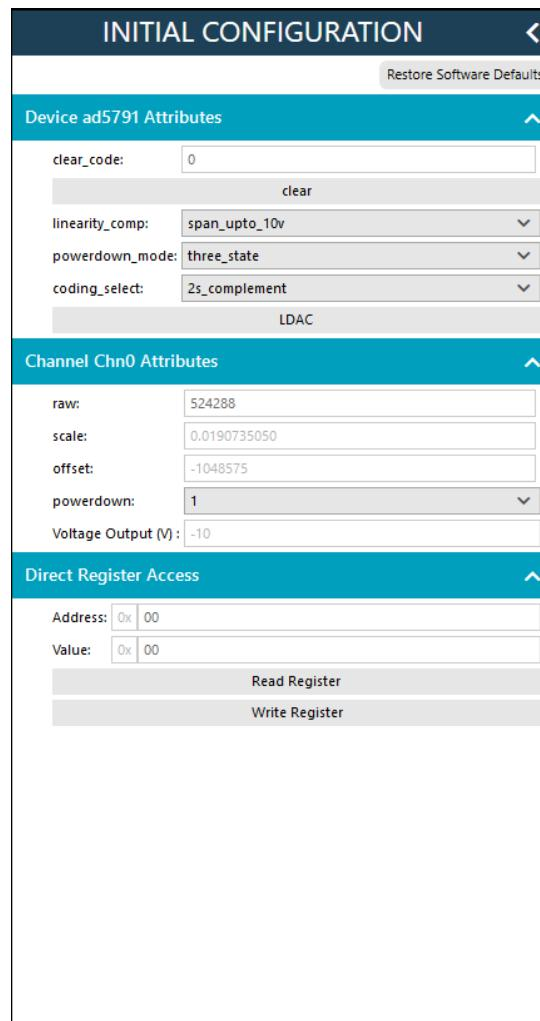

Figure 5. AD5781 Block Diagram with the INITIAL CONFIGURATION Tab
4. Double-click the **AD5781** or the **AD5791** chip to access the chip block diagram shown in Figure 4. This view provides a basic representation of the functionality of the board, together with the **INITIAL CONFIGURATION** view. See Figure 5 and Table 1 for details on the registers of the board.